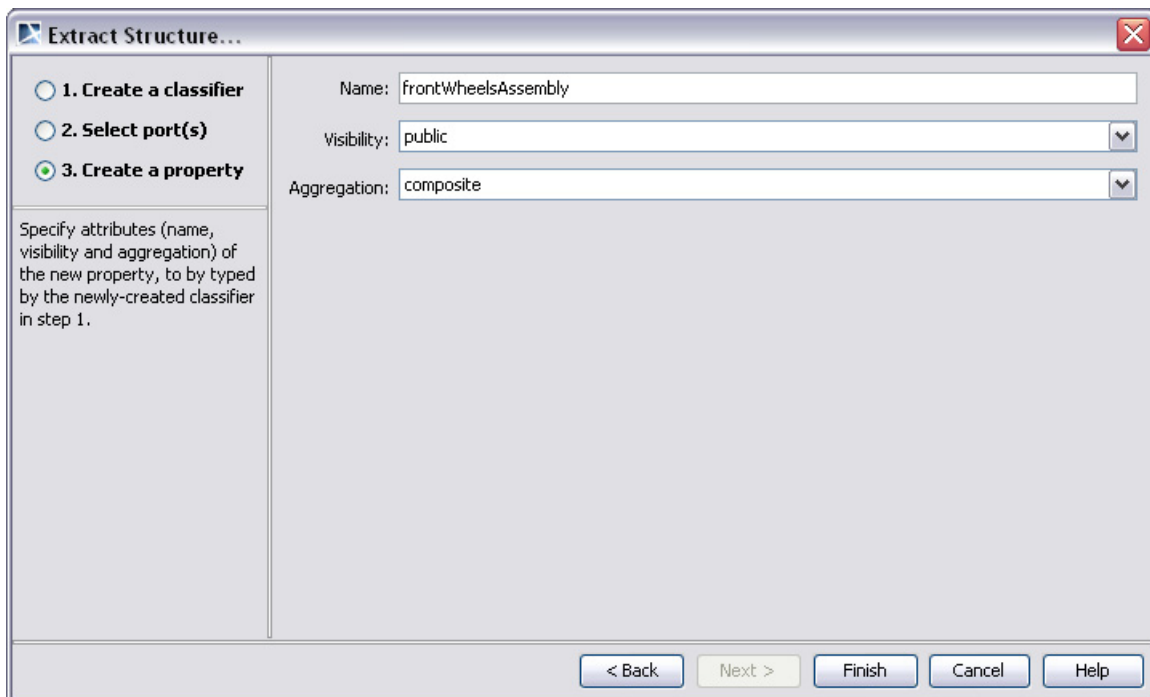

Figure 99 -- Step 3 - Create a property Pane
- The selected parts will be replaced by a new property which is typed by the classifier in Step 1. Enter the name, visibility, and aggregation of the new property (Figure 99).
- Specify the name of the new property in the **Name** box (Figure 99).
- Select the visibility of the new property from the **Visibility** box (Figure 99).
- Select the aggregation kind of the new property from the **Aggregation** box (Figure 99).
- Click **Finish** to finish extracting a structure (Figure 99).